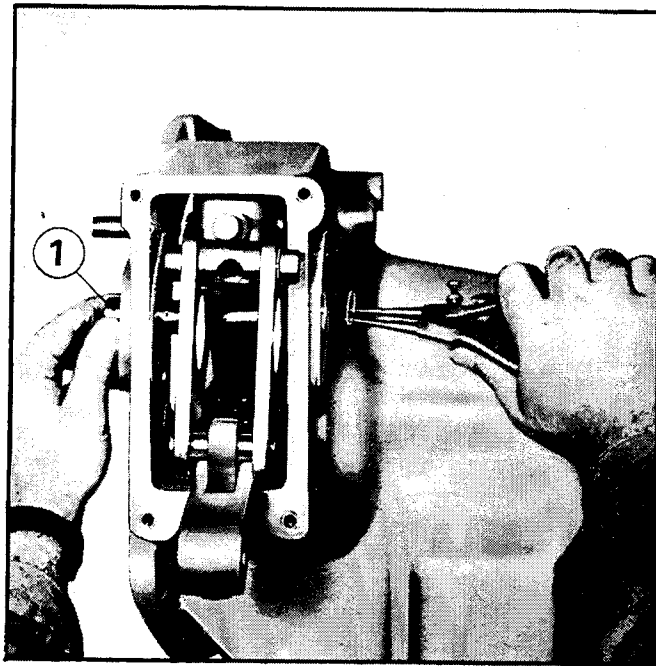

Fig. 17 — REMOVING ANCHOR PIN
8. Remove brake band anchor pin, No. 1, Fig. 17. Pin is secured with snap rings on each end.